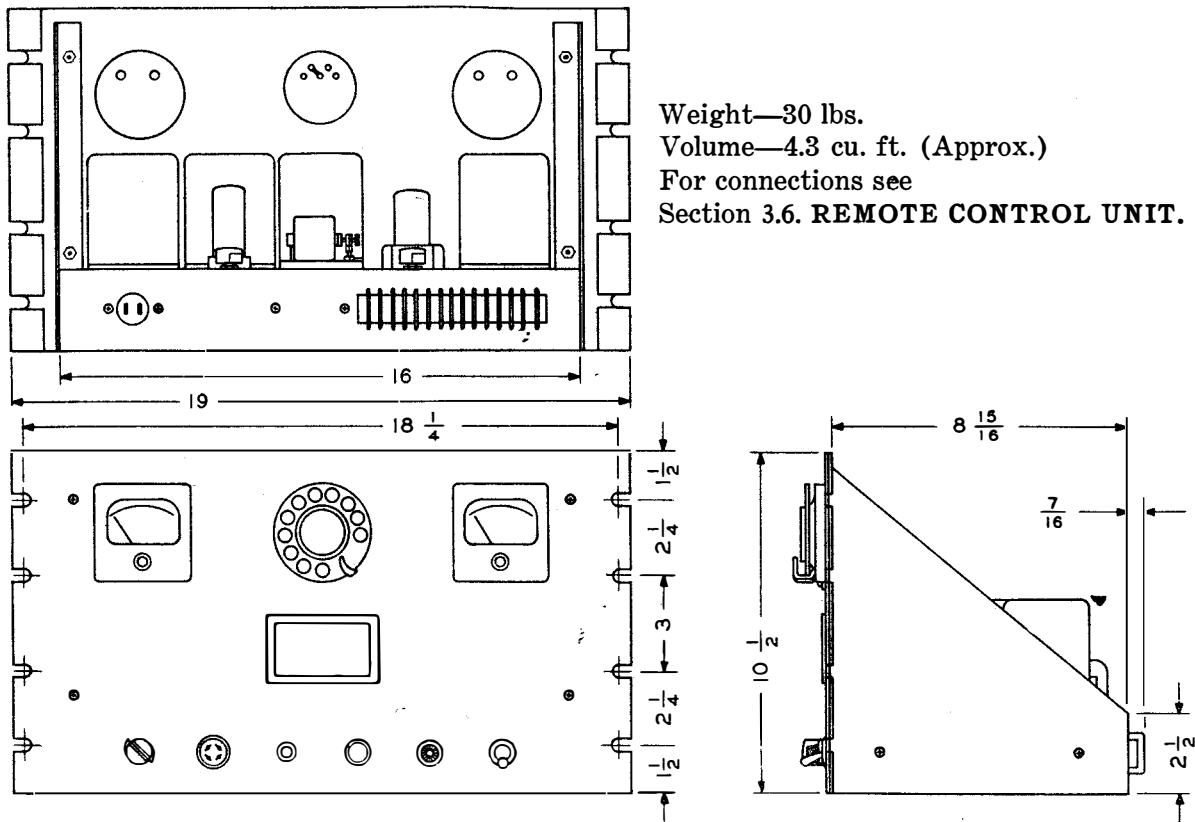

Fig. 16 Remote Control Unit Installation Diagram
**3.6. REMOTE CONTROL UNIT.** Refer to Fig. 16 for outline dimensions of the Remote Control Unit. The unit is designed to mount in a standard 19 inch rack.